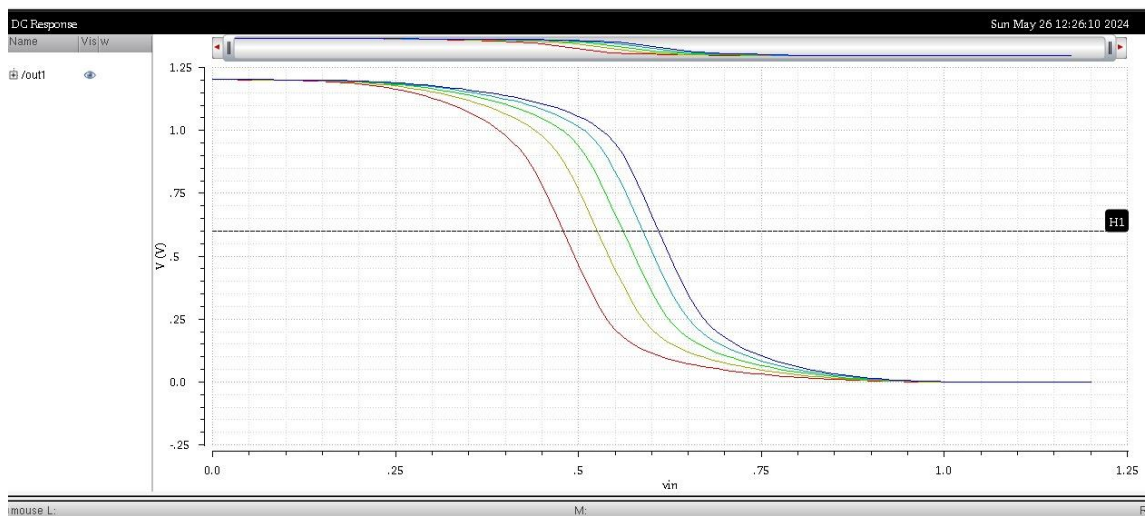

Figure 2: DC response of Inverter for different width of PMOS
- Then clicked Net list and Run. And input, output plot has been shown like figure 2.